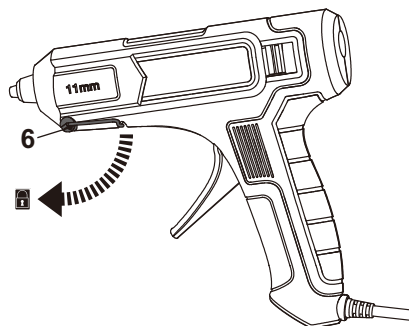

Fig. 1
1. Unfold and swivel the stand holder (6) forward until it stops (Fig. 1).